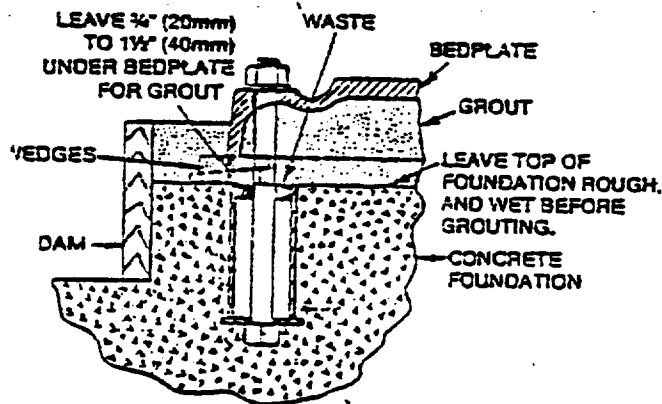

FIGURE 1
2. When unit is mounted on a concrete foundation, each foundation bolt should be installed with a pipe sleeve around it to allow for adjustment. The I.D. of the sleeve should be 2½-3 times the bolt diameter. Place a washer between the bolt head and sleeve to hold bolts. (See Fig. 1)
7. Build wood dam around foundation as shown in Fig. 1, and thoroughly wet top surface of foundation. Pour grout in hole provided in top of bedplate. Use of non-shrink grout is recommended. Grout should be thin enough to flow out under the bedplate, but not so wet that sand and cement will separate. Grout should be puddled continuously as it is poured to expel the air and completely fill grout hole. Strike along top of dam with trowel to give a neat finished appearance. Remove wedges when grout has hardened at least 48 hours. All motor and or turbine bases must be filled with grout.